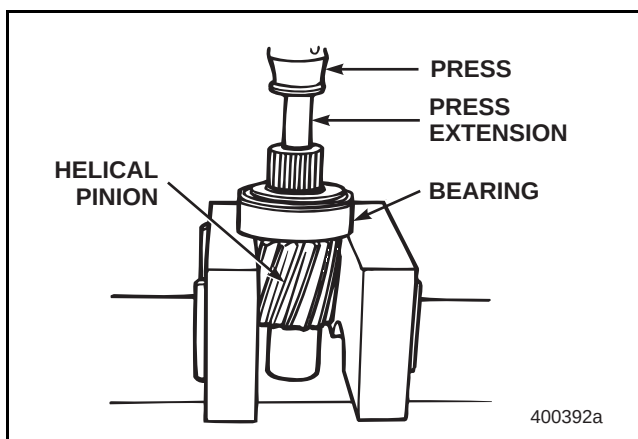

Figure 116 — Pressing Shaft out of Bearing
5. Press out the helical shaft from the bearing using the bearing cup for support or suitable puller. This action applies pressing force through the bearing rollers. Refer to Figure 116.